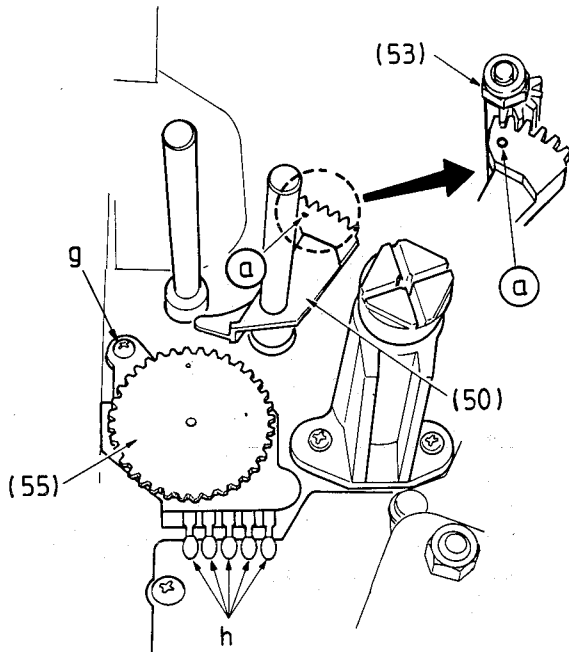

Fig. 62
7.11 Funktionswahlschalter (55), P5-Zahnsegment (50)
- Funktionswahlschalter (55) einsetzen, Schraube "g" eindrehen und Kontakte "h" anlöten (Fig. 62).
7.11 Mode Select Switch (55), P5 Toothed Segment (50)
- Fit the mode select switch (55), tighten the screw "g" and solder the contacts "h" (Fig. 62).
- Fit the P5 Toothed Segment (50) as shown in Fig. 62. The marked hole (a) on the P5 Toothed Segment (50) must be aligned towards the first tooth of the Tooth Segment on the P5 Lever (53).